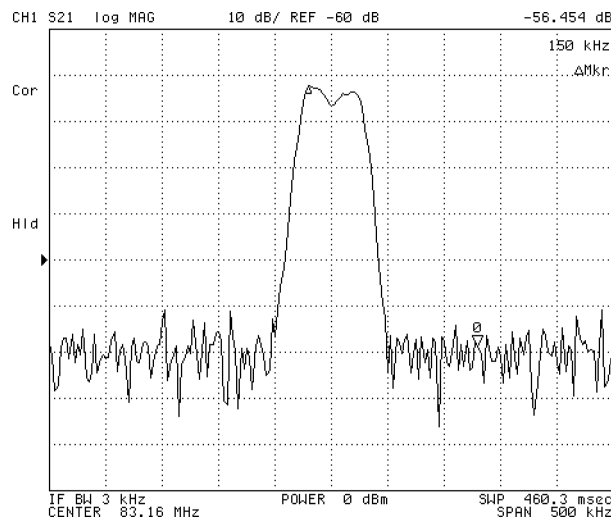

Figure 10-2. Response of a SAW Filter
3. Enter **[1]** **[5]** **[0]** **[k/m]** to move the marker to the point offset from the Δmarker. The Δmarker value shows the relative attenuation at the offset position (see Figure 10-2).